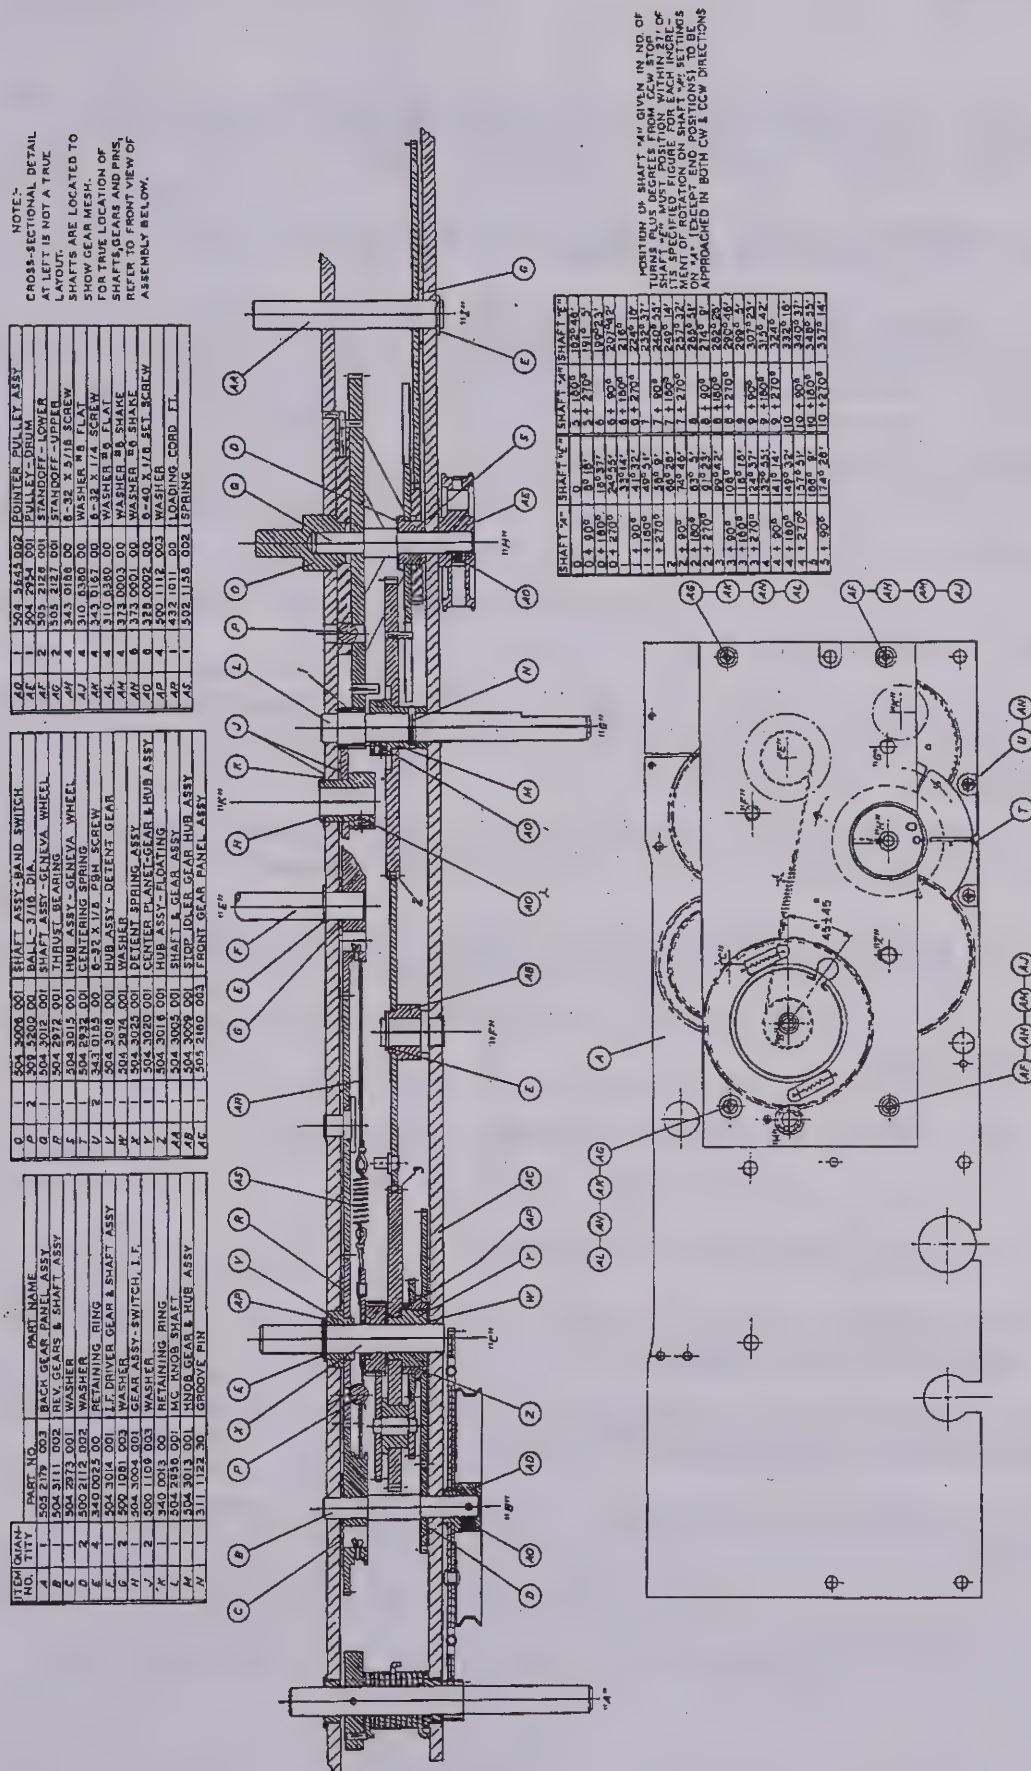

Figure 5-4. 51J-3 Dial and Bandswitch Gear Box
(1) Turn shaft G (BAND CHANGE) clockwise to the stop below band 1. Turn shaft A counterclockwise to the stop.
(2) Scribe a mark across the 85-tooth spider gear that carries the planetary gears, and across the 90-tooth stop-pin gear, using the top of the front gear panel as a guide.
(3) Scribe a radial mark, precisely under the Geneva wheel detent, on the 144-tooth gear that has two stop pins attached.
(4) Using the circumference of the Geneva wheel as a guide, scribe a mark on the 85-tooth gear that drives the Geneva wheel.
(5) Scribe a mark through the edge of the small dial cord pulley and the front gear panel.
(6) Remove pin from hub of large dial cord pulley.
(7) Remove large dial cord pulley and gear.
(8) Remove small dial cord pulley.
(9) Remove retaining ring from shaft I (shown as shaft Z in the front view of gear plate in figure 5-4).
(10) Using a pair of right angle TRUARC pliers or two bent (right angle) scribes, remove retaining ring from shaft F.
(11) Measure and record the length of loading spring using a pair of dividers
(12) Remove four mounting screws from front gear panel.
(13) Remove front gear panel, being very careful not to let shafts ride up with plate. While removing this panel, do not allow gears to unmesh or rotate.
(14) Keep shim washers with respective gears or shafts.
(15) Before moving or disengaging any gears other than the 90-tooth gear on shaft F, scribe a line through detent spring, 48-tooth detent gear, and rear gear panel, and another line through the 52-tooth gear on shaft E and rear gear panel.
(16) Mark all gears being removed in such a manner that they may be identified later for reassembly.
(17) If the overtravel coupler is removed, note that the disc and gear are detented. Do not lose detent ball.
(18) Make all necessary repairs. If any parts that have been scribed are to be replaced, be sure to scribe the new parts in exactly the same manner before placing them in the equipment. If the loading cord is to be replaced, form a small loop at one end of each of the two pieces to provide anchors for the spring. Push free ends of the cords through the proper pulley-holes. Knot the free ends after allowing for five inch lengths of cord between the loops and knots. Coat the knots with Duco cement.
(1) Shaft G should now be against the clockwise stop, and should detent when turned counterclockwise approximately  $45^\circ$ . The ball on shaft C will now detent shaft G every  $180^\circ$ .
(2) When shaft G is turned counterclockwise  $7\frac{1}{2}$  revolutions, or 15 detent positions from the first detent position, the pin in the 144-tooth gear on shaft H (figure 5-4), and the radial pin on the overtravel disc rotate clockwise until the radial pin just touches or is about to touch the pin in the rear gear panel. Further rotation of shaft G causes the pin in the gear to leave the radial pin that was stopped by the pin in the rear gear panel. Thus the overtravel coupler output shaft, which drives r-f switches S101 through S107 (figure 4-2), rotates  $300^\circ$  for the first 16 detent positions of shaft G and remains at that setting for further counterclockwise rotation of shaft G.
(3) Shaft G should rotate 14 more detent positions or 7 revolutions from the sixteenth detent position, and should hit the counterclockwise stop approximately  $45^\circ$  past the thirtieth detent position. If the stop pins intersect before this, adjust them by changing phase relations of the gears at points 1, 2, and 3, shown in figure 5-4. Before deciding to change the relative positions of these gears, double check the conditions in steps (1), (2) and (3). If instructions in paragraphs 5.6.2. and 5.6.3. were followed precisely, operation of the BAND CHANGE gear train should meet the conditions set forth in these steps.
(4) The Geneva wheel should turn one notch when shaft G turns counterclockwise from an even-numbered to an odd-numbered detent position. (Count the first detent position from the clockwise stop as number 1.) Thus shaft I should rotate through 14 positions, or  $280^\circ$ , for 30 detent positions, or  $14\frac{1}{2}$  turns, of shaft G. The initial position of shaft I should correspond to detent positions 1 and 2 of shaft G, the second shaft I position should correspond to detent positions 3 and 4 of shaft G, and so on through to the thirtieth detent position of shaft G.
on shaft E and the 48-tooth detent gear on shaft C are still set at their respective scribe marks. Place pulley and gear assembly far enough on shaft B to engage the rear section of the split gear with the 15-tooth gear on shaft A. Be sure that groove-pin holes on shaft and hub are lined up and that the pulley slot is within 45° of the position shown in figure 5-4. Rotate front section of split gear so that springs stretch to 3/4 inches. Engage front section with 15-tooth gear on shaft A. Replace groove pin and tighten set screw.